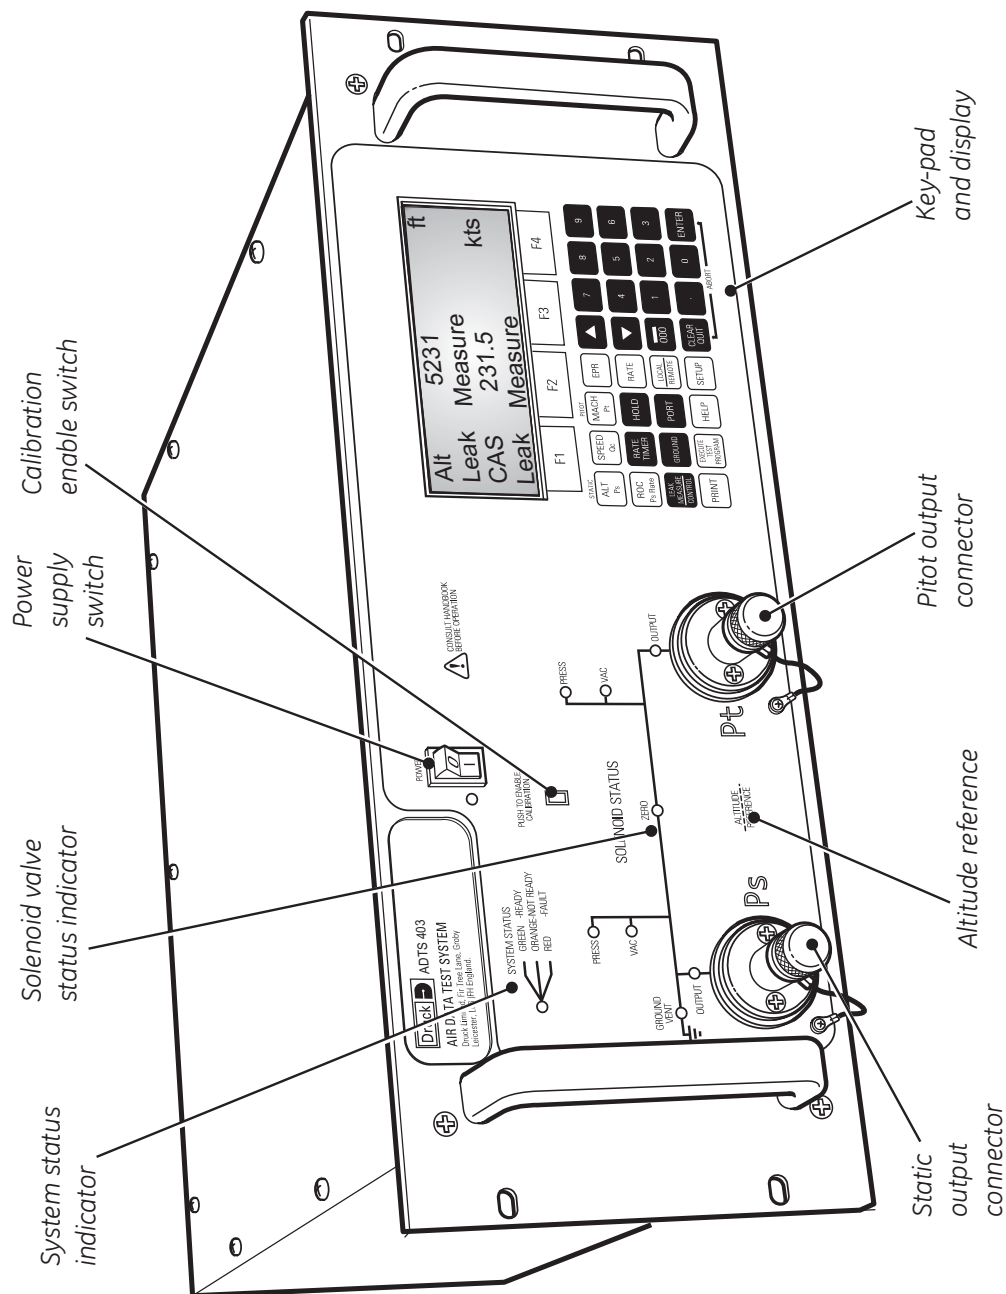

FIGURE 2-4 ADTS 403 GENERAL VIEW
2.5 Pneumatic Pressure Connections (Figures 2-4 and 2-5)